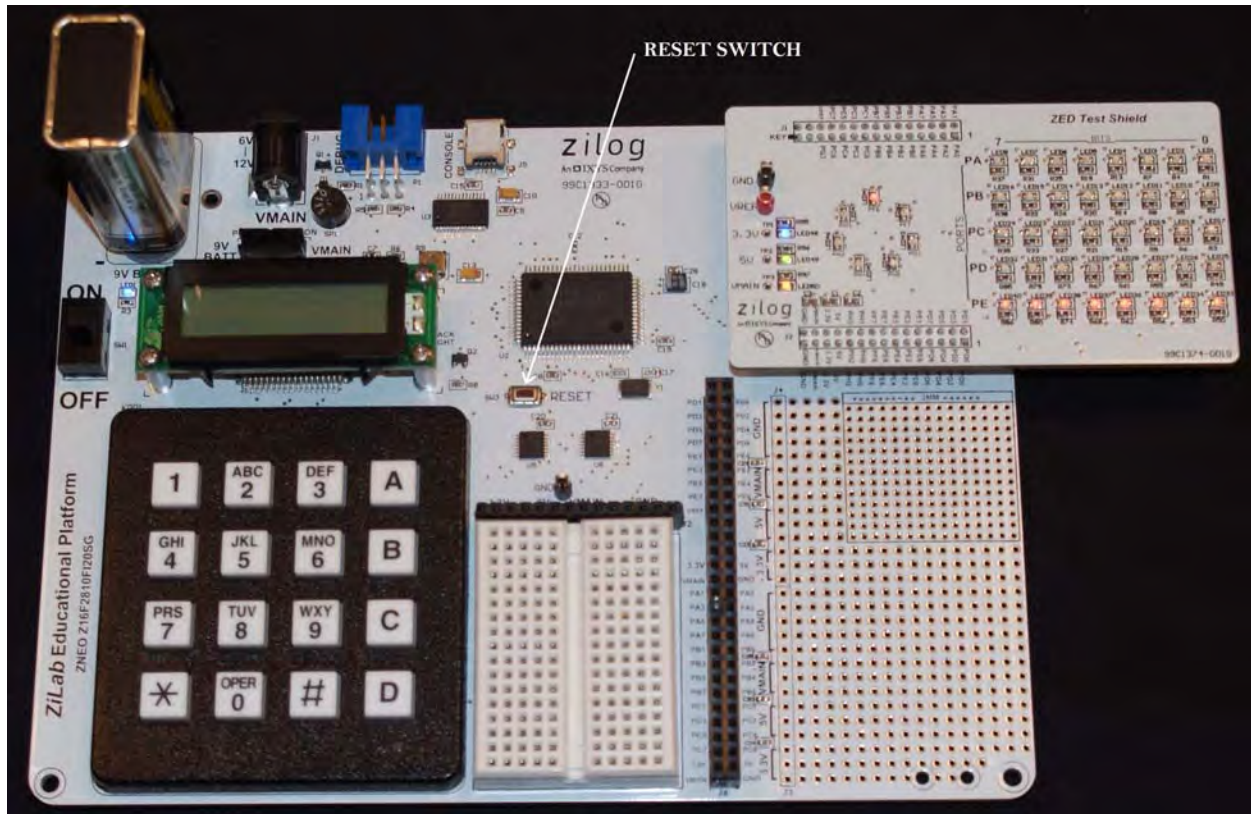

Figure 10. The Location of the Educational Platform RESET Switch
5. Press the Platform's RESET switch, indicated in Figure 10.